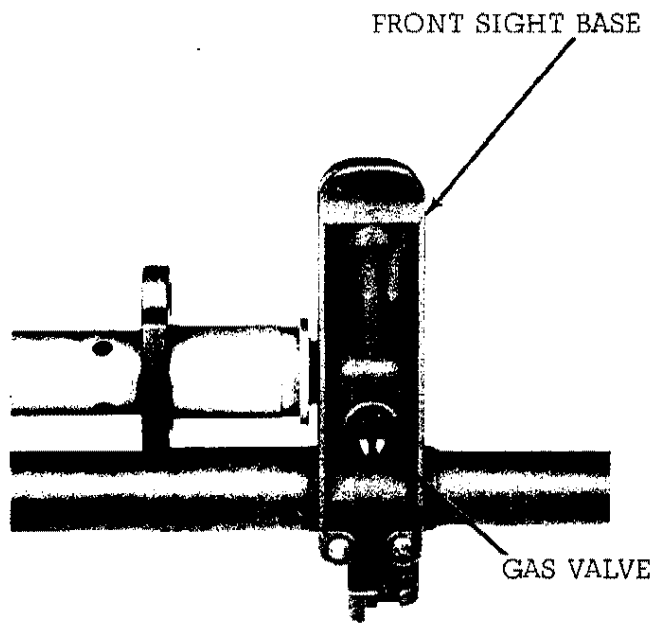

FIGURE 8. GAS VALVE
i. Gas Valve. The head of the gas valve (figure 8) (the side with the slot) is located on the right side of the sight base, midway between the barrel and gas cylinder. In order to fire ball ammunition in either the "SEMI" or "AUTO" positions, the slot must be in the vertical position. The slot should be in the horizontal position to launch grenades.